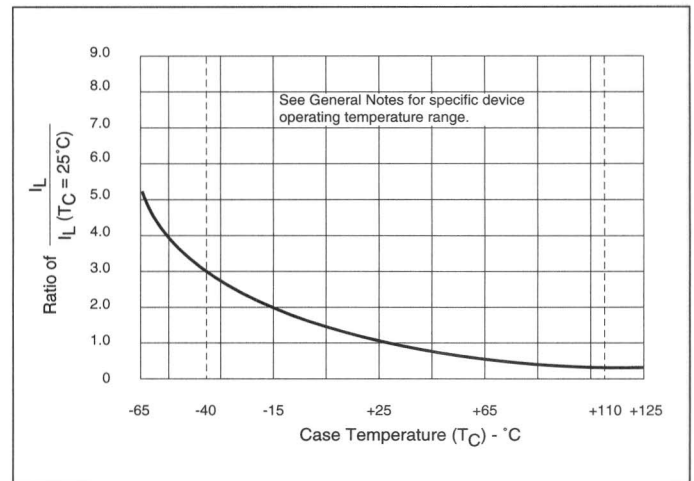

Figure 5.18 Normalized DC Latching Current vs Case Temperature
- Latching current can be higher than 20mA for higher I_{GT} types. Also latching current can be much higher at $-40^\circ C$. See Figure 5.18.